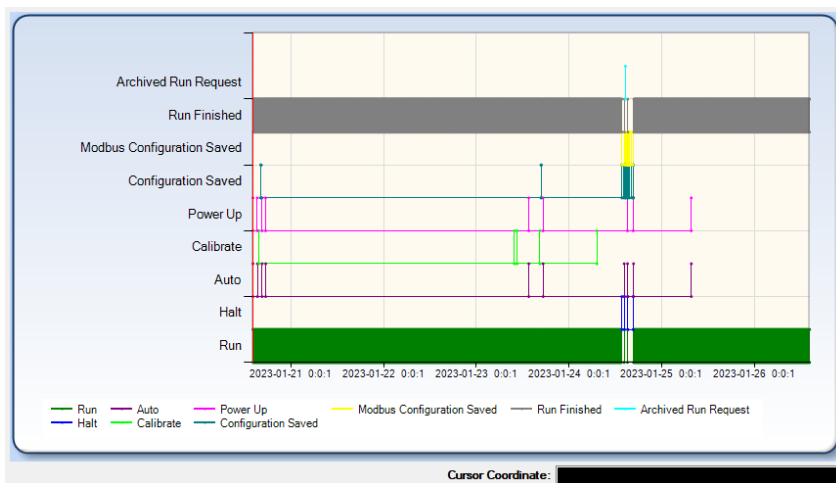

Figure 4-34: Events chart generated from Events Tab on AccuChrome PC application. Vertical lines within each row indicate the event type becoming active.
- **Events Chart** – A time-based bar chart will be generated to show the type of event, when it occurred and how long it remained active (see Figure 4-34).